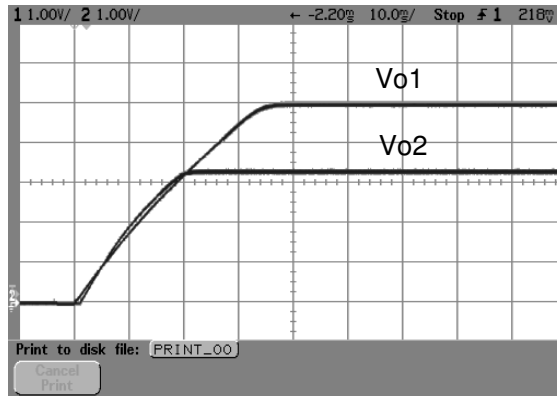

Figure 3. Typical Output Voltage Tracking Waveform during Start-Up (0.4V/DIV)
*With existing tracking circuit assembly, VOUT1 starts independently (Option 1). VOUT2 tracks VOUT1 during start up (option 2). Figure 3 shows a typical start-up waveform with tracking.